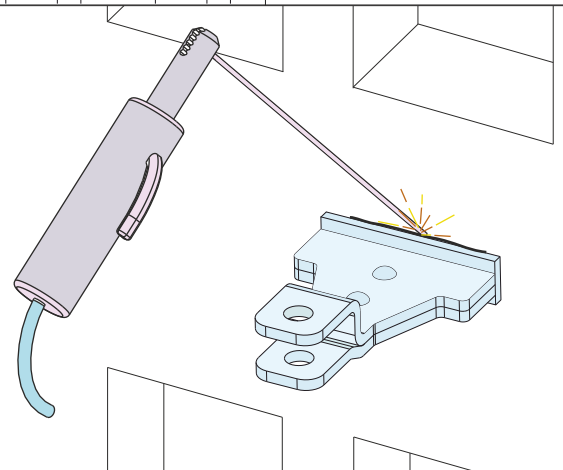

Fig. 24
- Carefully weld the front bracket onto the gate, in the correct mounting position - Fig. 24